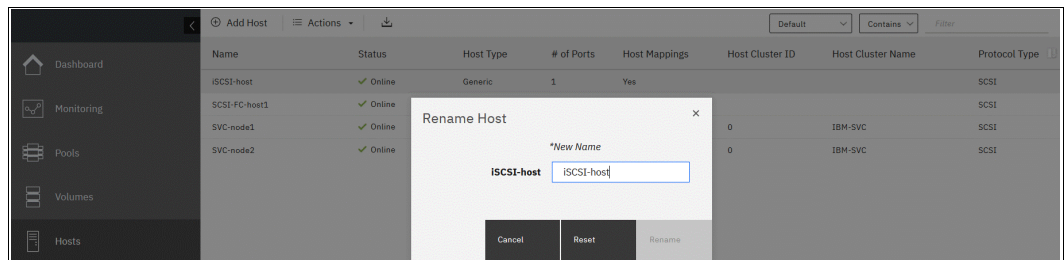

Figure 7-33 Renaming a host
2. Enter a new name and click **Rename** (see Figure 7-33). If you click **Reset**, the changes are reset to the original hostname.